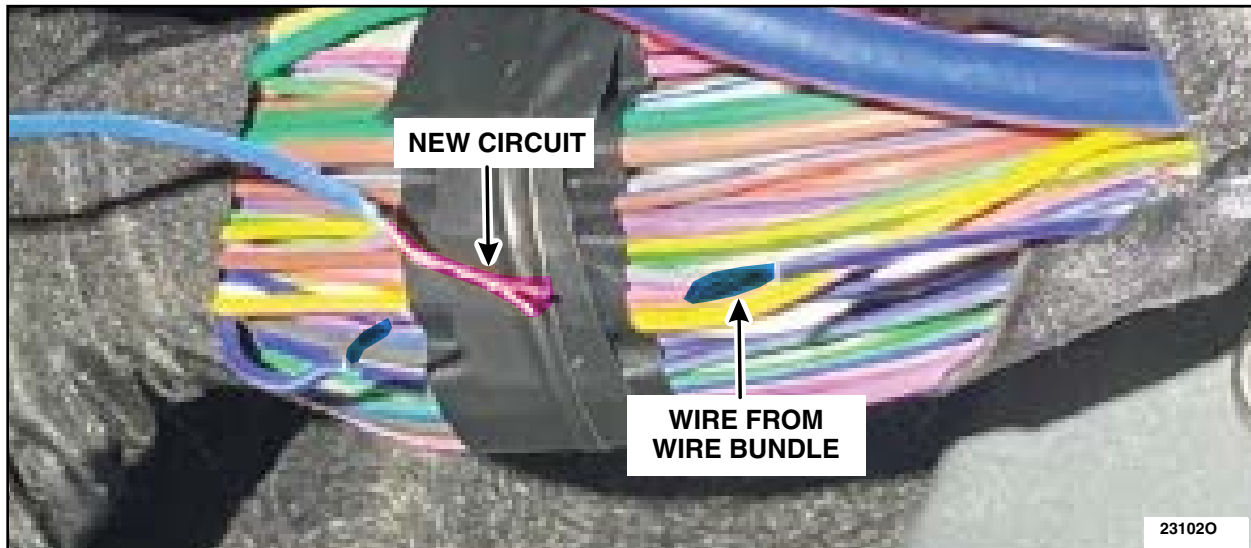

FIGURE 14
17. Remove 50mm of the insulation from the wire end and from the circuit separated in the wire branch. See Figure 14.